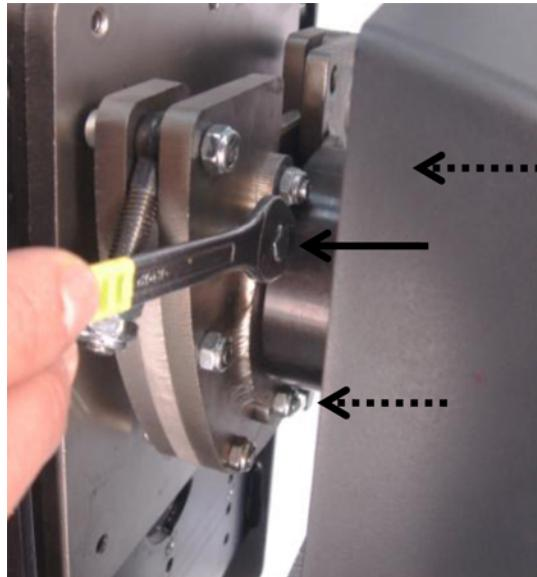

Figure 3-16 Undo 3 Blocking Bolts
2. Back off the (3) TH 6x16 blocking bolts (**Figure 3-16**).